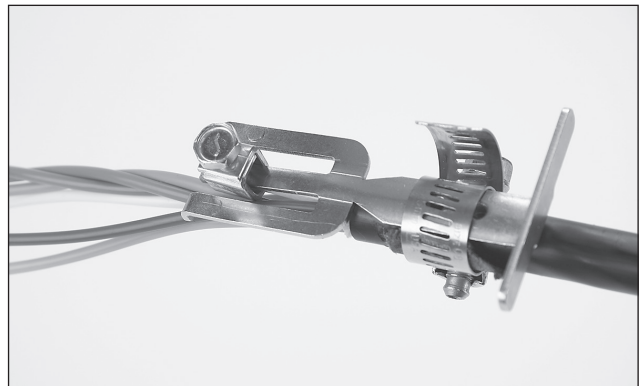

Figure 2
- 3.4.1 If cable has central strength member, assemble strength member clamp onto strain relief bracket as shown in Figure 2. Mark and cut the central strength member at end of strength member clamp.